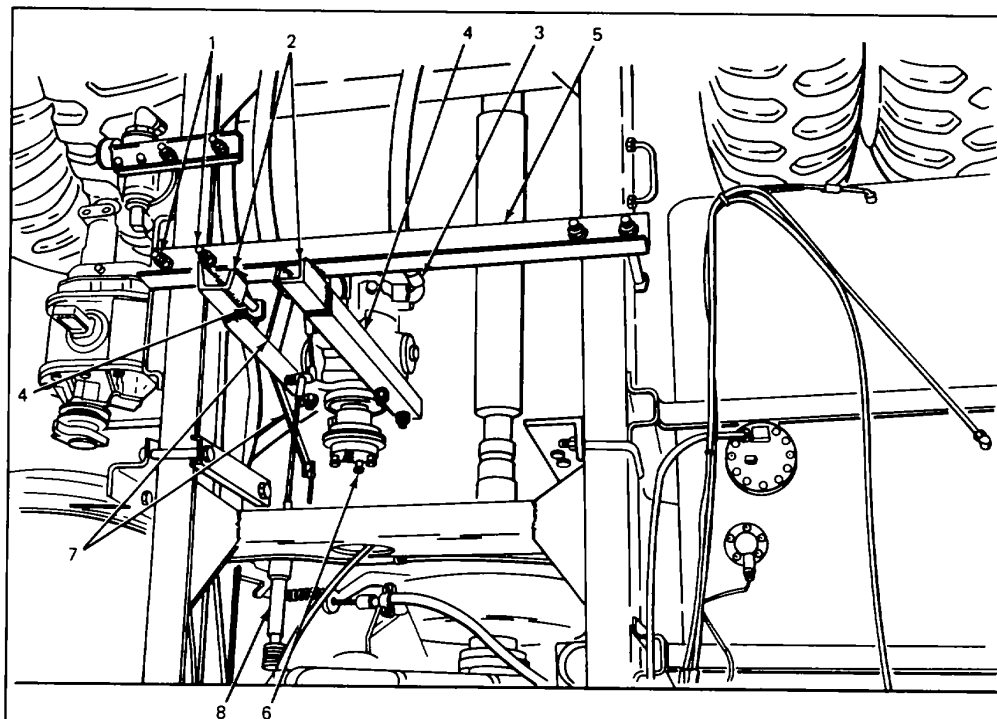
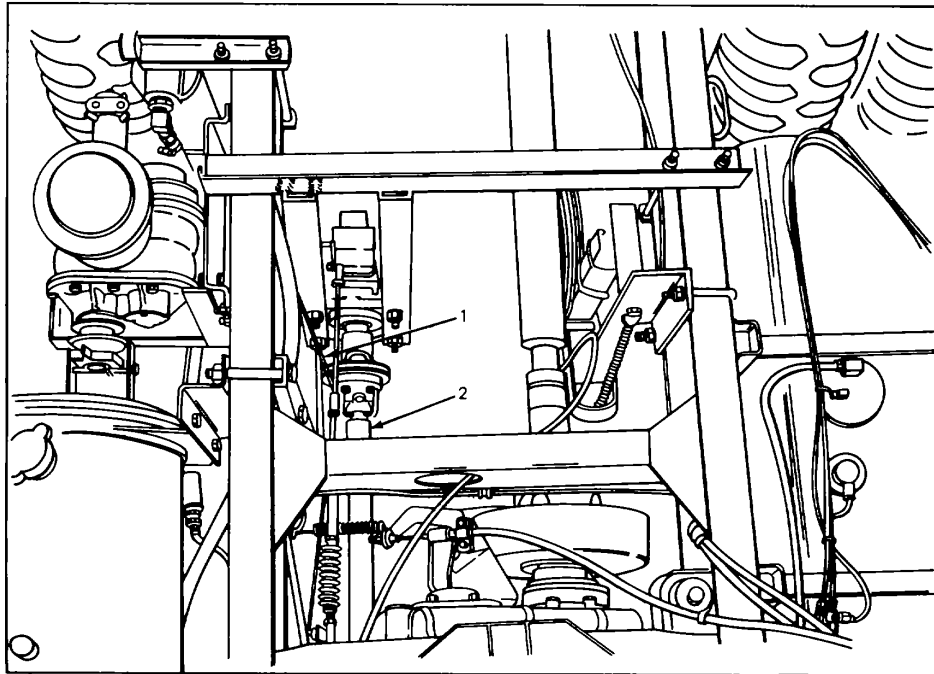
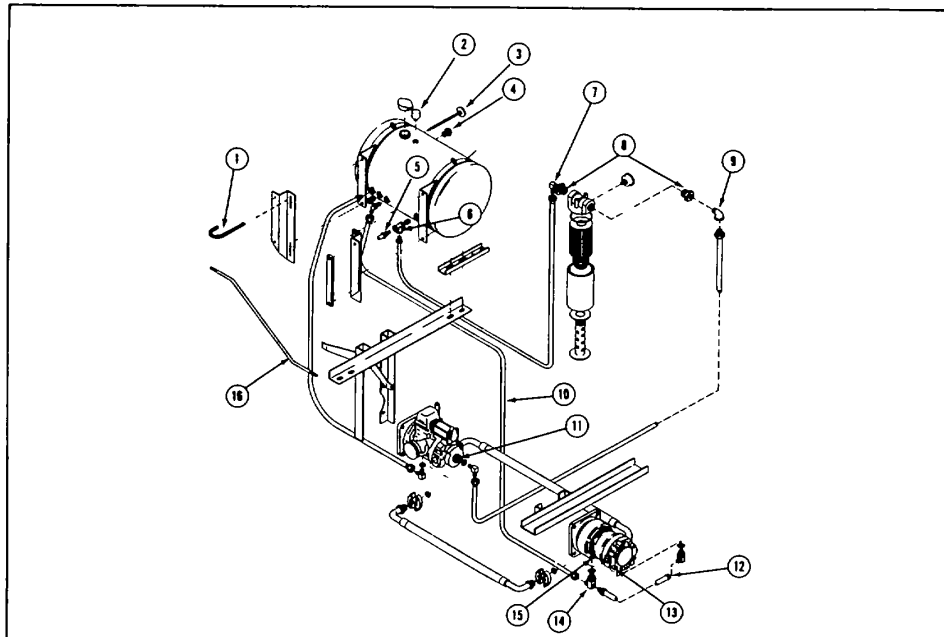

Figure 40
Figure 41
Figure 45
Attach upright supports to hydraulic pump with four (4) 3/4 X 2 bolts as seen in Fig. 40. Next attach cable supports to right hand pump support using two (2) 3/8 X 1 bolts. Assemble pump drive yoke and drive line pulley onto pump input shaft. Slip blower drive belt over pulley and allow to hang loose. Lower pump and supports into area where pump is to be mounted. Attach P.T.O. drive shaft, (Fig. 41) to pump input shaft with four (4) 3/8 X 1 bolts. Locate pump so as to give straightest drive line configuration while still clearing chassis members. With upright supports held vertical (using a carpenter's level) bring frame cross over support forward until it just touches the rear side of the upright supports. Weld uprights to cross over support. Next weld upright gussets in place as seen in Fig. 40. Install four (4) 1/2 X 12 tie down bolts and tighten securely. Finally install pump upright stabilizer rod as seen in F. 41 & 45. As a final check, observe P.T.O. output shaft and pump input shaft for excessive skew angle (i.e. shafts are not parallel when viewed from right side of chassis).
Connect one end of the 3/4" gray return hose to return port in the reservoir (Fig. 45) and lay hose along inside of right hand chassis frame channel.
Attach right and left hand high pressure hose to respective sides of hydraulic pump (Fig. 40). Remove dust covers from hydraulic motor ports and assemble 1/2" return hose between high pressure pilot relief port and case drain ports (Fig. 45 and 56) . Then attach 3/4" return hose to return tee on bottom of hydraulic motor (Figure 56).